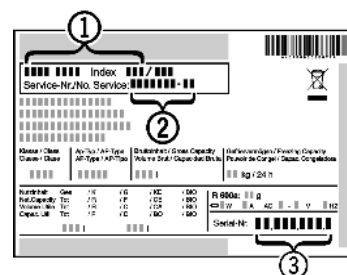

Fig. 6
- Read the appliance designation *Fig. 6 (1)*, service No. *Fig. 6 (2)* and serial No. *Fig. 6 (3)* off the type plate located inside the appliance on the left-hand side.
- Notify the customer service, specifying the fault, appliance designation *Fig. 6 (1)*, service No. *Fig. 6 (2)* and serial No. *Fig. 6 (3)*.